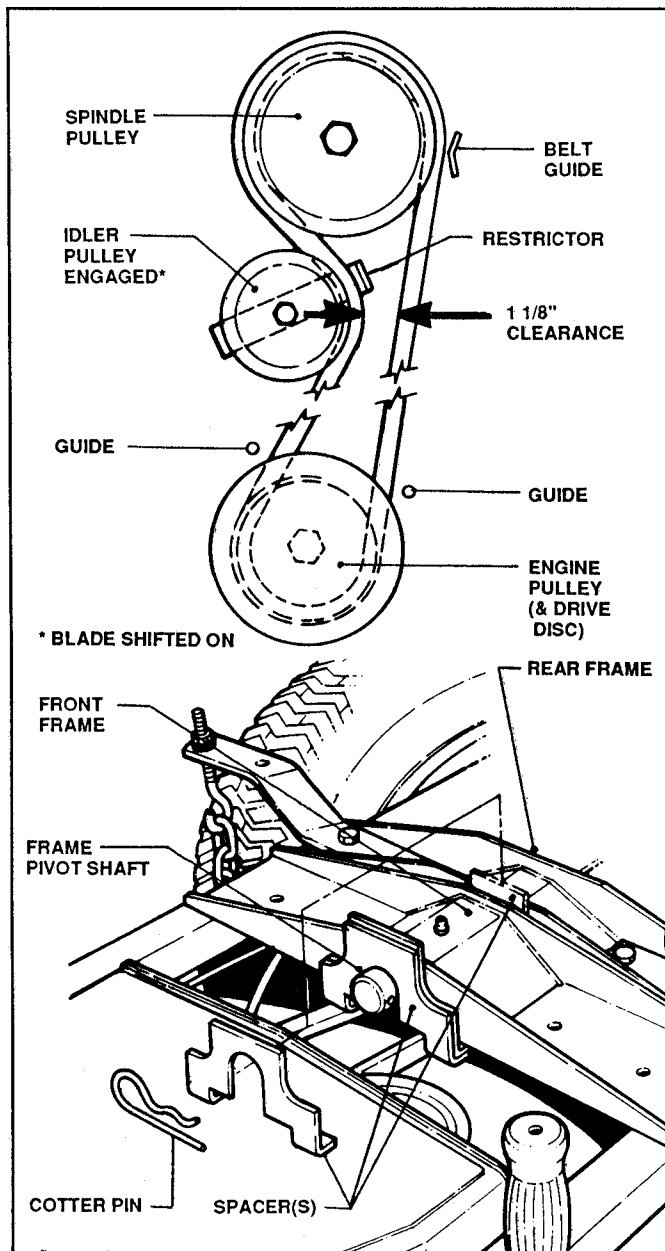

FIGURE 19
1. Move the **BLADE CONTROL** to the left and forward to the "ON" position and check the distance between the inside spans of the belt adjacent to the edge of the idler pulley. This should measure about 1 1/8". If less than this, correct spacing by pulling the cotter pin and moving one of the spacers from the front of the frame pivot shaft to the space between the front and rear frames. Reinstall pin and recheck. When clearance is about 1 1/8", proceed with Step 2. See Figure 19.